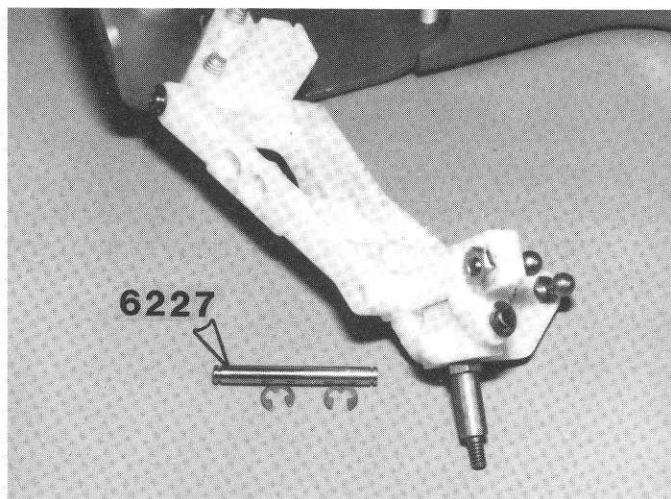

Fig. 13
□ **Figs. 13 & 13a** Line up the holes in the block carrier with the holes in the A-arm and push the #6227 outer pin into the arm. Install the "E" clips. Do the R.H. side.